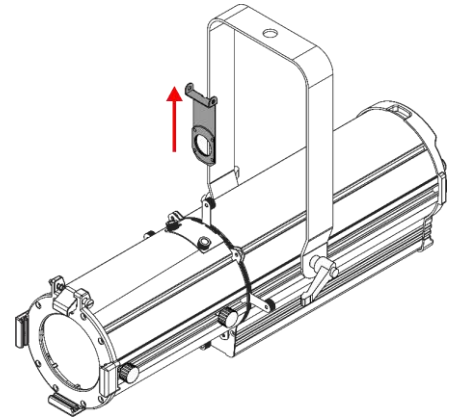

Fig. 18
- 03) Take the **gobo holder (12)** out of the of gobo slot (see Fig. 18).